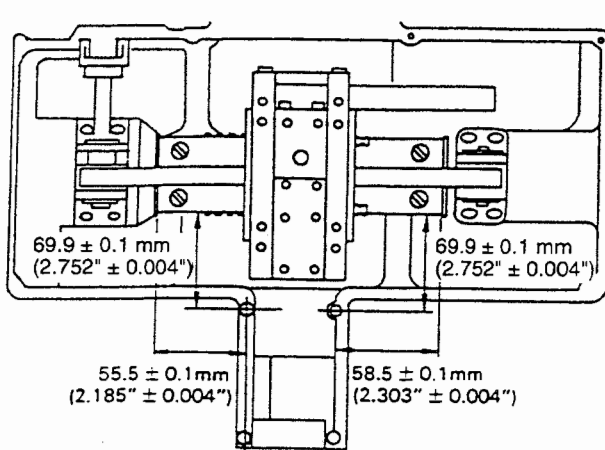

Fig. 5-45-3
- 1) Position and fix the X-Y table according to Fig. 5-45-3.